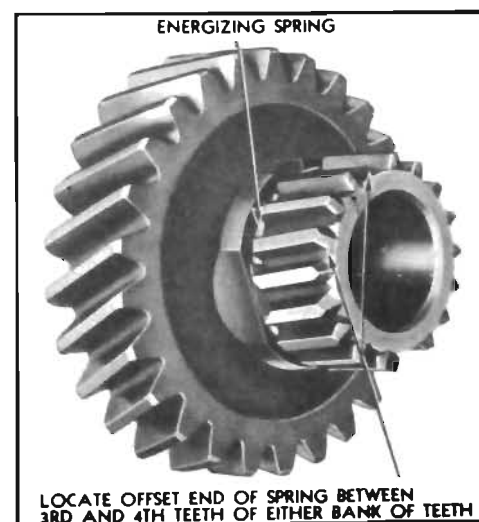

Figure 4-25—Energizing Ring Location
1. It will be noticed upon examining these springs that one of the ends is slightly offset. Each spring must be assembled in its groove in the clutch gear and second speed gear. The offset or locking end must be between the third and fourth teeth in either bank of teeth. See Figure 4-25.